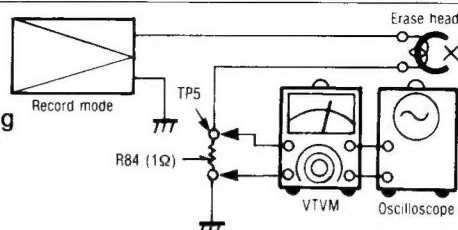

Fig. 9
1. Test equipment connection is shown in fig. 9.